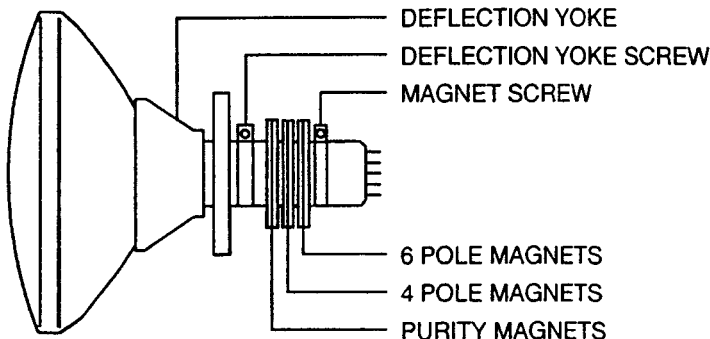

Fig. 5-1
1. Tighten the screw for the magnet. Refer to the adjusted CRT for the position. **(Refer to Fig. 5-1)**